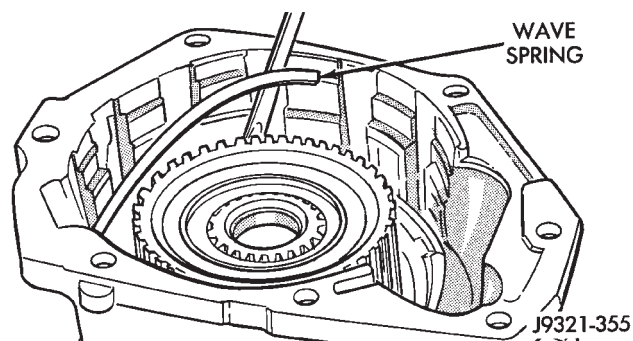

Fig. 244 Overdrive Clutch Wave Spring Installation
(2) Install wave spring on top of reaction ring (Fig. 244). **Reaction ring and wave ring both fit in same ring groove.** Use screwdriver to seat each ring securely in groove. Also ensure that the ends of the two rings are offset from each other.